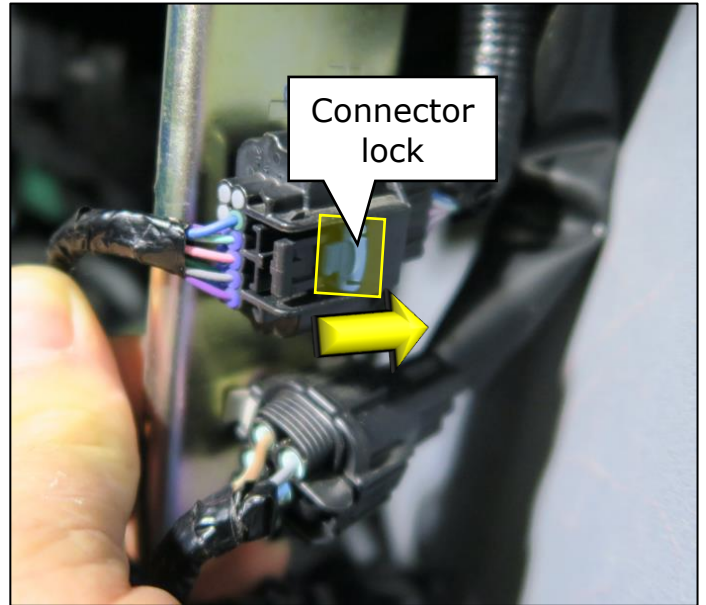

Figure 43
38. Reconnect the (2) electrical connectors.
- Move the upper connector lock toward the front of the vehicle (Figure 43)